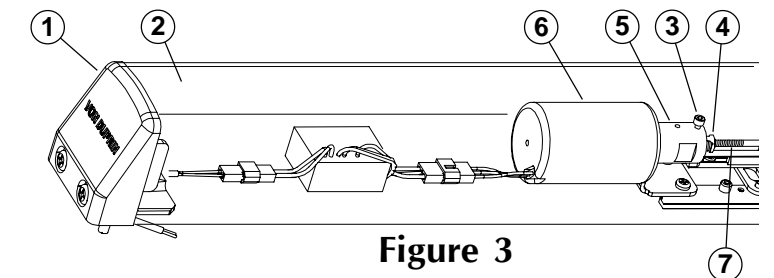

Figure 3
C. Adjust solenoid if dogging rod is too long (see Figure 3):
1. Remove end cap ① and dogging cover ②.
2. Loosen cap screw ③.
3. Hold plunger ⑤ depressed in solenoid housing ⑥.
D. Solenoid adjustment if dogging rod adjustment is too short (see Figure 3):
4. Turn threaded bushing ④ out to lengthen dogging rod ⑦ so plunger ⑤ just bottoms in solenoid housing ⑥ and latch bolt is fully retracted.